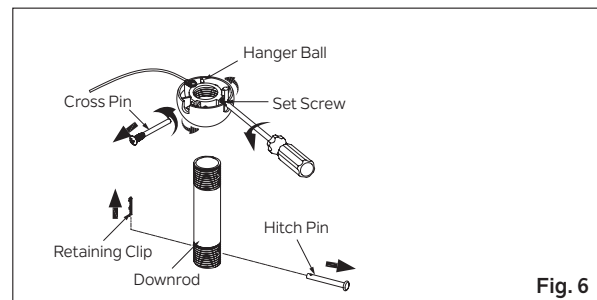

Fig. 6
Step 2. Remove the retaining clip and hitch pin from the downrod assembly. Remove the hanger ball from the downrod assembly by loosening the set screw on the hanger ball (do not remove), unscrewing and removing the cross pin, and unscrewing the hanger ball (counterclockwise) from the downrod. (Fig. 6)